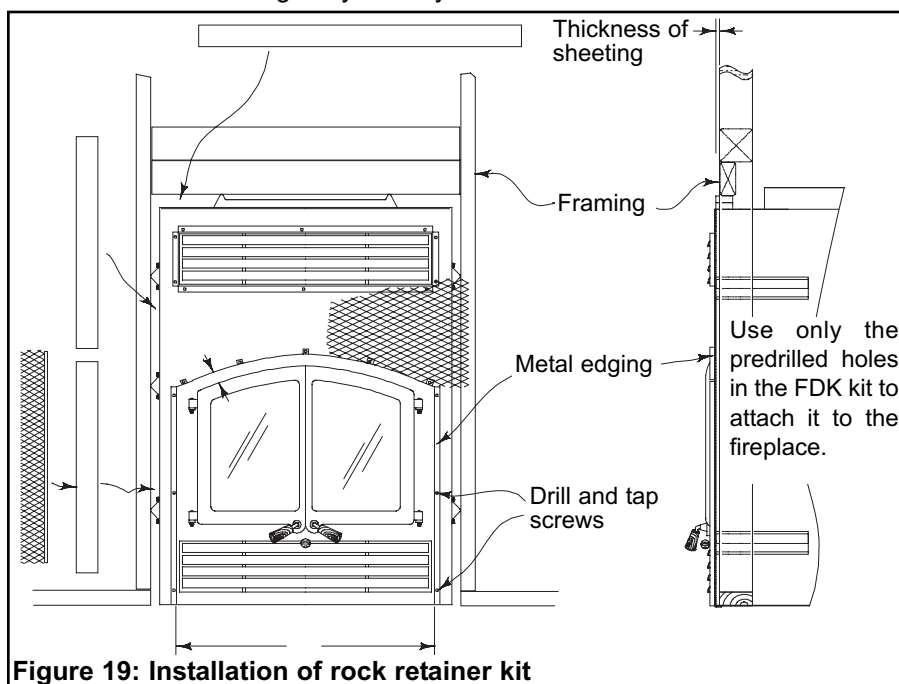

Figure 19: Installation of rock retainer kit
1. Install the expanded metal on the top half of the fireplace using drill and tap screws at locations shown (see Figure 19). If there is a bypass rod above the door, allow for it to come through. For thick rock, the rod extension (R6414) may be required.